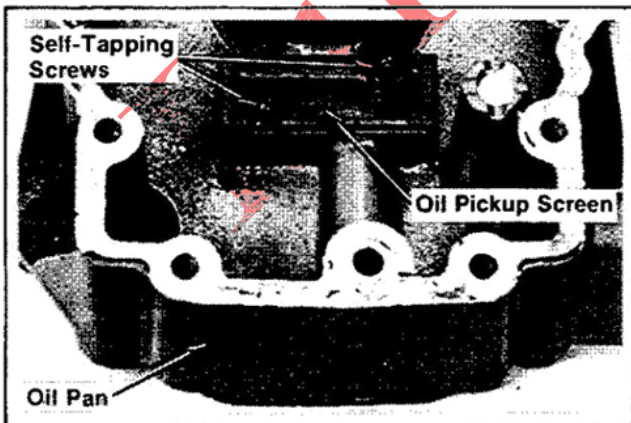

Figure 9-36. Removing Oil Pickup Screen.
3. Remove the self-tapping screws and oil pickup screen from oil pan. Refer to Figure 9-36.